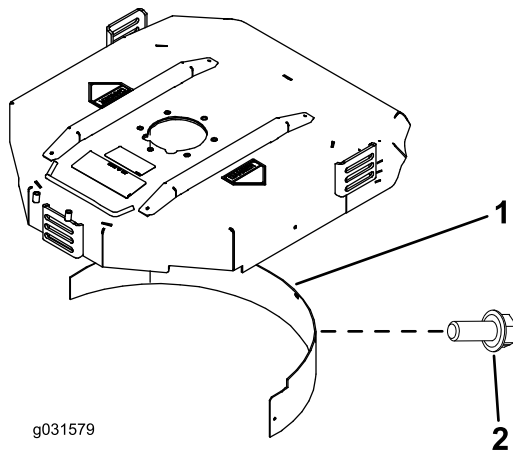

Figure 11
2. Install the mulching baffle in the rear opening and secure it with 5 flange-head bolts (Figure 11).